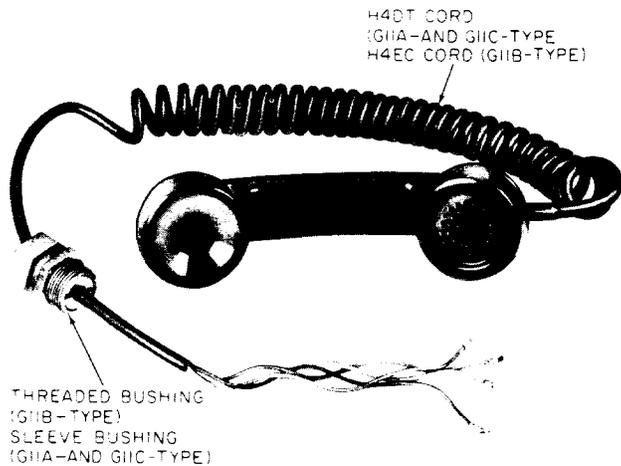

Fig. 9—G11-Type Handsets
**2.26** The G11-type handsets (Fig. 9) are intended for use with explosion-proof telephone sets. Designed to provide protection against the probability of explosion resulting from any spark or flames originating within the handset under extreme conditions of operation.